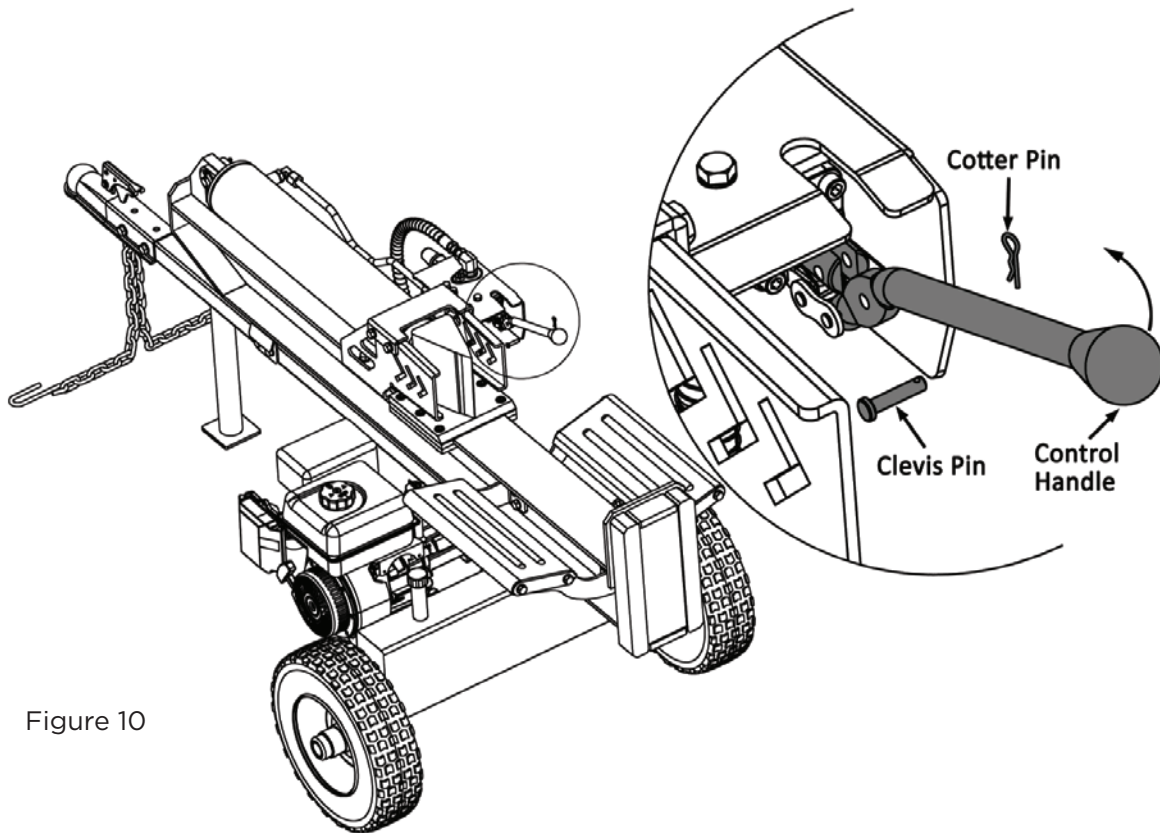

Figure 10
**Step 7:** Assemble the control handle. (See Fig. 10).